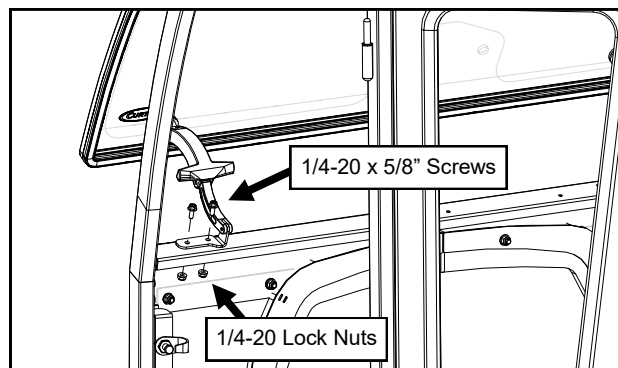

Fig. 12.2 (Secure Windshield Latches)
- 12.2** Secure the windshield latches to the side frames with the latches open, and tighten latch hardware. See Figure 12.2.